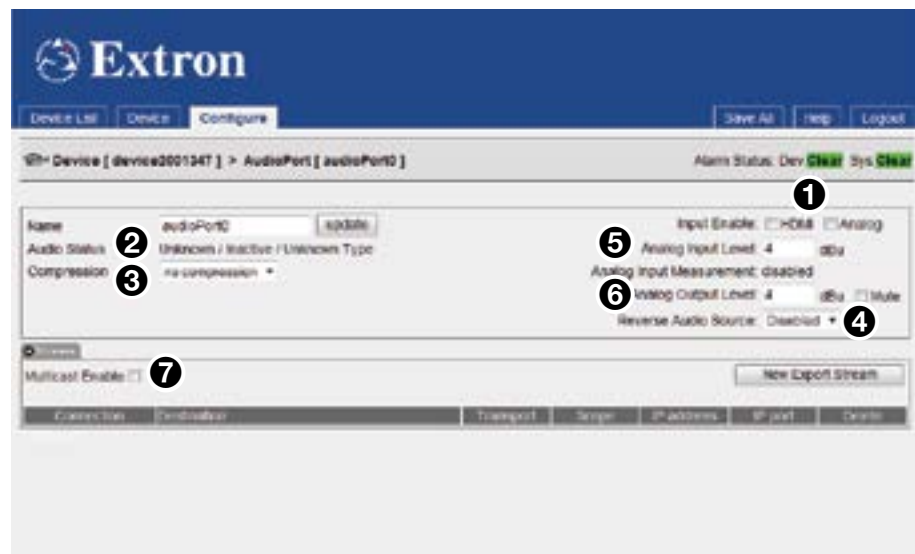

Figure 53. Configure Tab (Audio Options)
3. Select the audio source by checking either the **HDMI** or **Analog** box (see figure 53, ❶).
4. Ensure the Audio Status shows a valid audio source type (❷). If it does not, see Audio Input Selection on page 55.
5. Ensure that Compression is set to no compression (❸).
6. If a reverse audio signal is required, select a source from the Reverse Audio Source drop-down list (❹).
7. Set the program audio Analog Input Level (❺) and the Analog Output Level (❻) to obtain an undistorted signal with optimum signal to noise (see Analog input level \(program audio\) on page 55 and Analog output level \(return audio\) on page 56).
8. If RTP multicast source streaming is required, select **Multicast Enable** (see figure 53, ⑦ on the previous page). If RTP unicast is required, ensure the box is not selected.